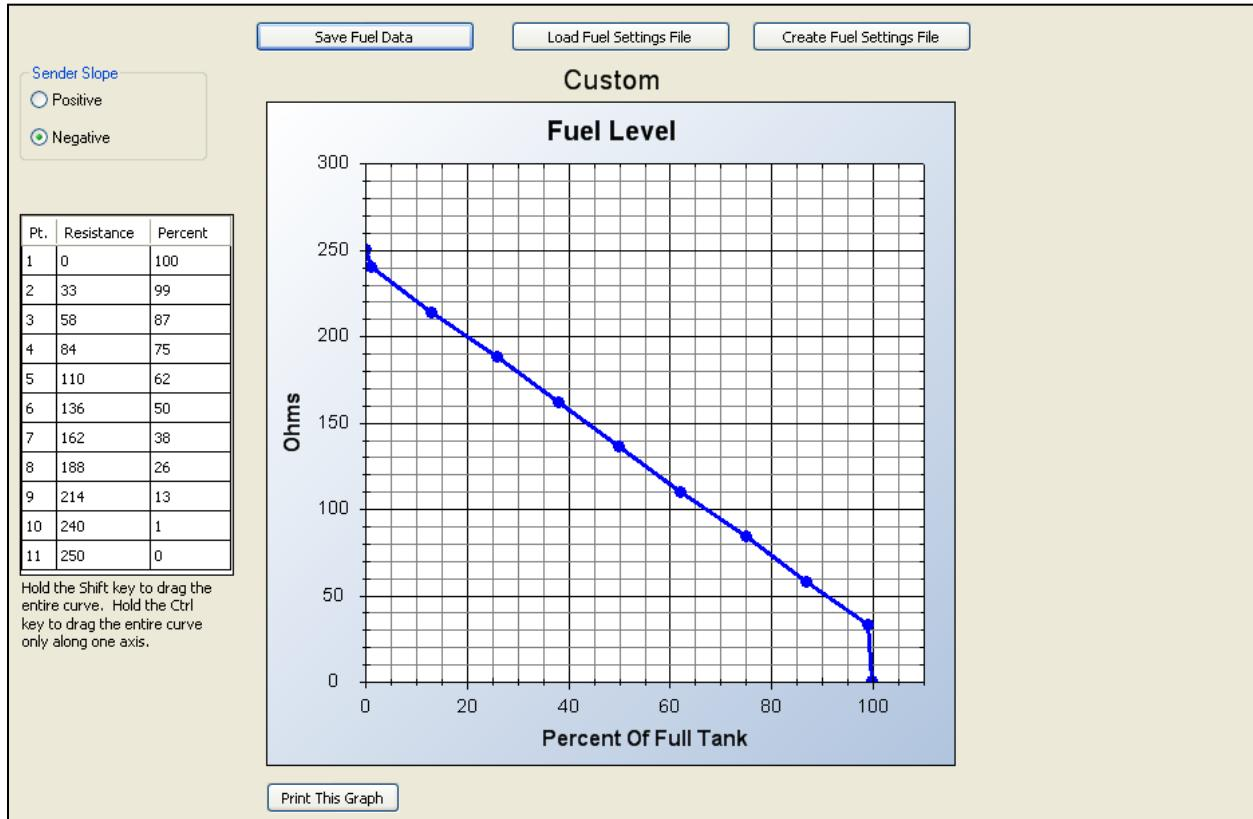

Figure 6-35. Settings Explorer, Programmable Senders, Fuel Level Screen
c. Percent Fuel Level (Figure 6-35)